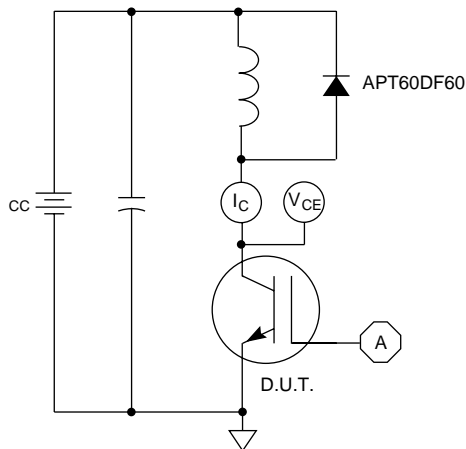

Figure 21, Inductive Switching Test Circuit
- ⑤  $E_{on2}$  is the clamped inductive turn-on energy that includes a commutating diode reverse recovery current in the IGBT turn-on switching loss. A Combi device is used for the clamping diode as shown in the  $E_{on2}$  test circuit. (See Figures 21, 22.)
- ⑥  $E_{off}$  is the clamped inductive turn-off energy measured in accordance with JEDEC standard JESD24-1. (See Figures 21, 23.)
- ⑦ Countinous current limited by package lead temperature.